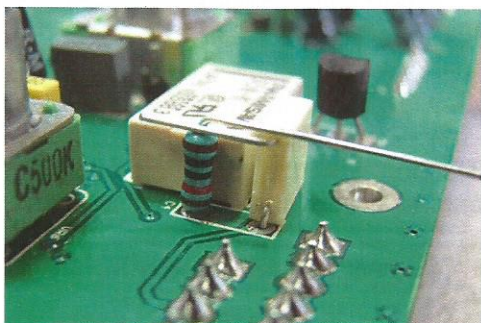

Figure 2 – Orientation.
5. Insert both components into the original C4 holes as shown in Figure 2. Note that the capacitor is nearer the edge of the PCB.